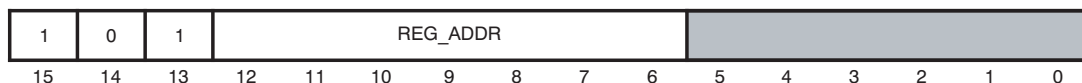
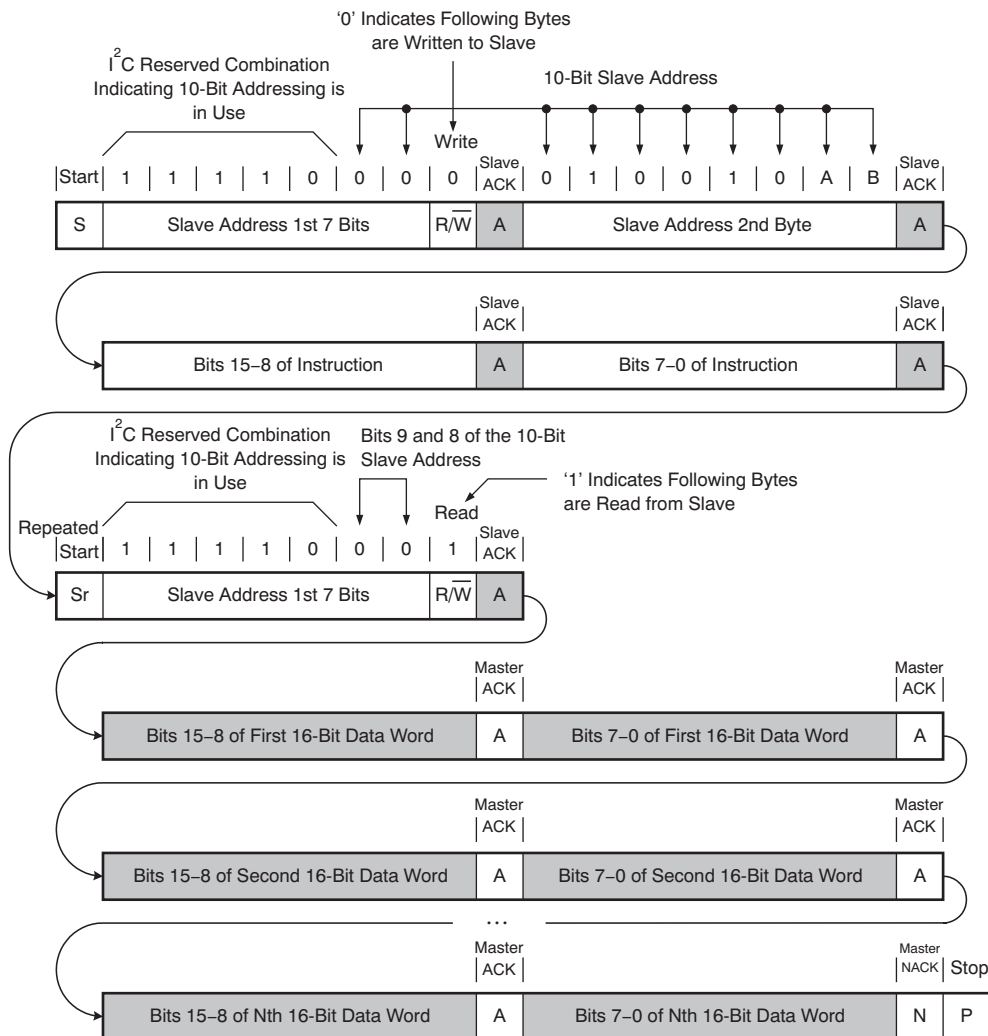

Figure 10. Register Read Instruction Format
Figure 12. Example I²C Read Operation
Read operations require a start condition followed by two bytes describing both a 10-bit address format and the AFE8220 10-bit slave address. The next two bytes must contain the 16-bit instruction word format, as illustrated in Figure 10. A repeated start followed by the first byte of the slave address is then required to create a combined transaction. Note that the R/ \overline{W} bit is set to 1 (read), indicating that subsequent bytes are to be read from the slave. The AFE8220 presents addressed 16-bit data words in 8-bit pairs until a NACK (N) is provided by the master. After the final pair of read data bytes, an I²C stop condition must be provided to terminate the transaction. Figure 12 illustrates a block read transfer of *N* 16-bit data words. Gray areas denote slave-driven SDA cycles; white areas are master-driven.